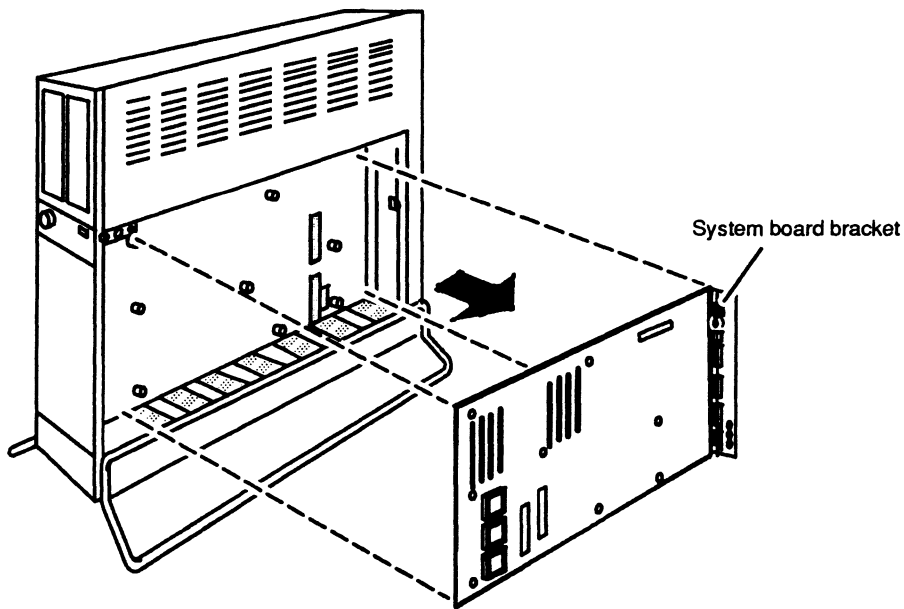

Figure 5-6 Removing the System Board
6. Remove the system board by pulling its bracket away from the computer unit; then lifting the board out of the computer unit as shown in Figure 5-6.